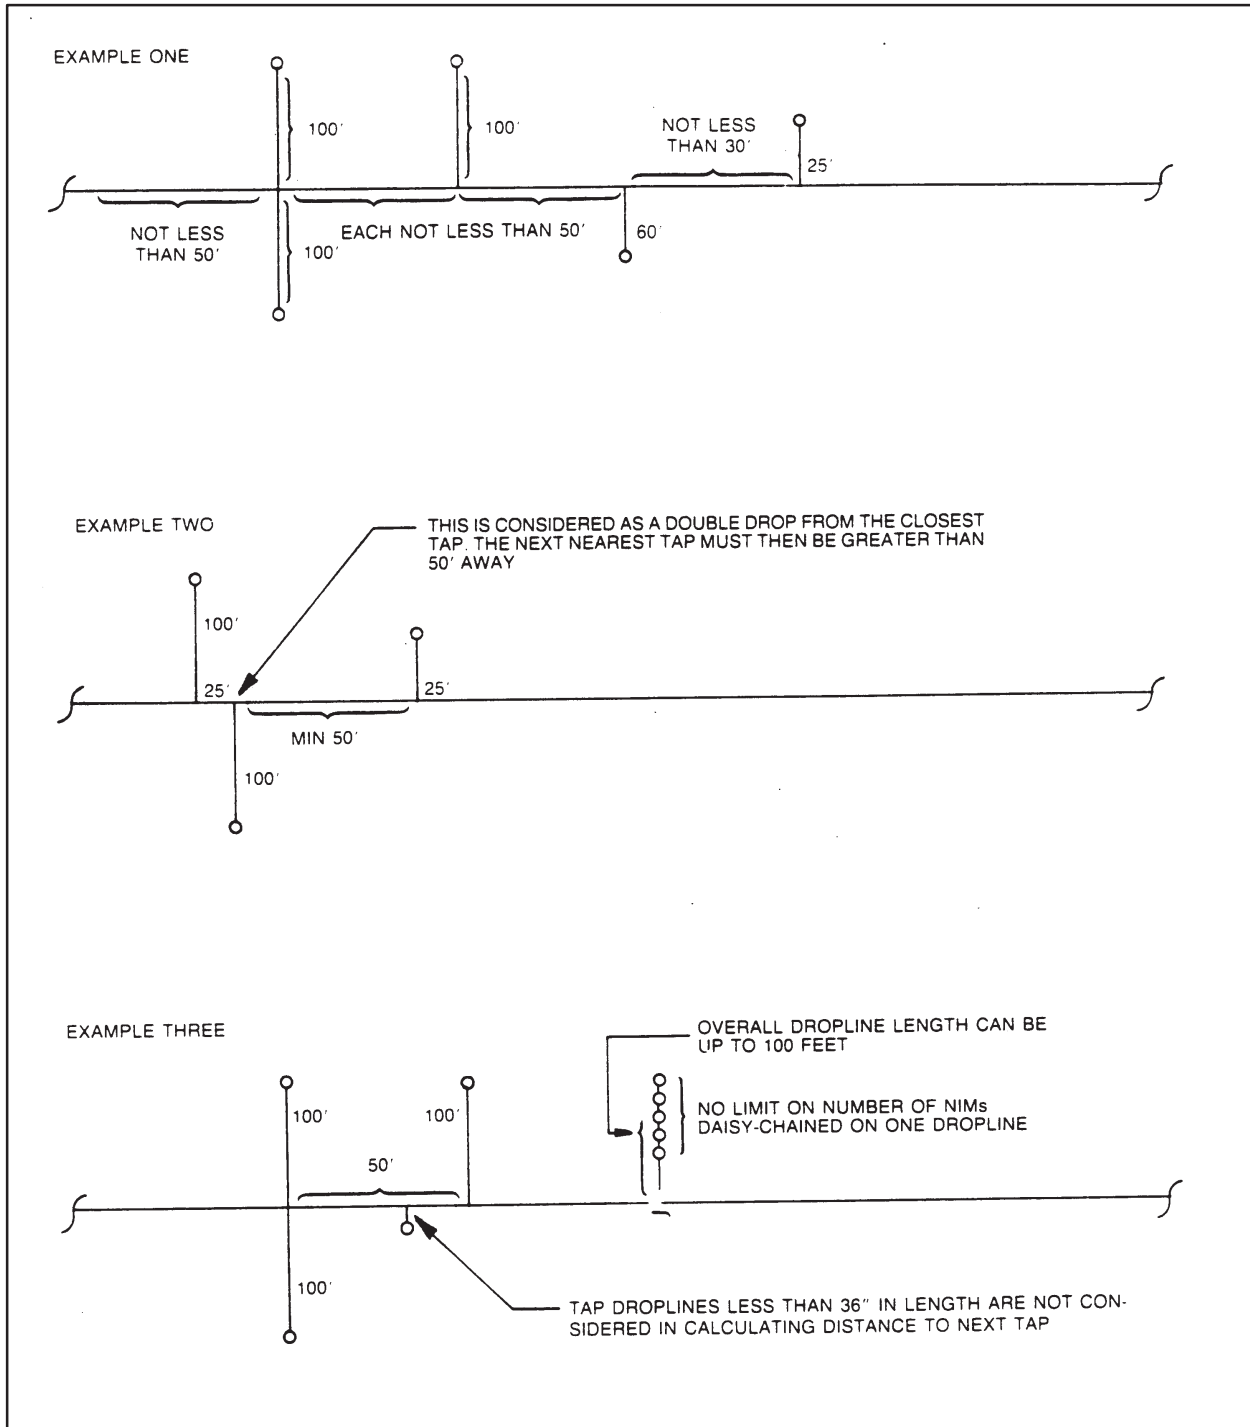

Figure 4-3 Tap Spacing Examples
**Local Line Tap Spacing.** Local Line signal characteristics require that the distance between droplines on the network be calculated using the length of the droplines at the last drop point. The minimum distance between droplines must be equal to or greater than one-half the length of the dropline at the last drop point. Two drop lines with the last one closer than one-half the drop line length of the previous one are considered a double drop point from the closest tap. The sum of both of their lengths is used to calculate the spacing between them and the next dropline. A dropline fifty feet long, for example, precludes the installation of the next station tap closer than 25 feet along the spine. No limit is placed on the number of NIMs that can be daisy-chained to form a drop line off of the main trunk as long as the resulting tap length is no greater than 100 feet. Figure 4-3 illustrates three typical examples of tap spacing.